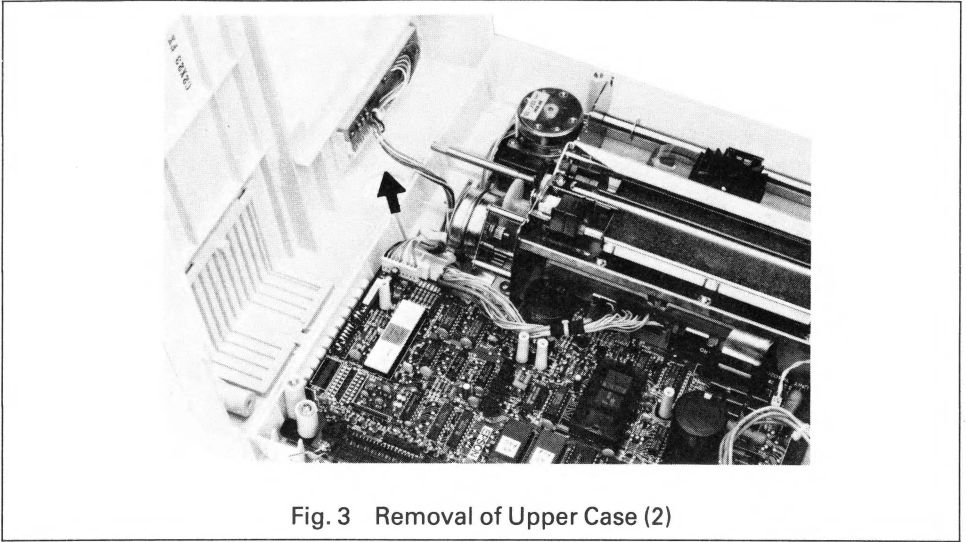

Fig. 3 Removal of Upper Case (2)
- (4) Lift the upper case of the printer, unplug the cable connector connecting the control panel and the control circuit board from the control circuit board. (See Fig. 3.)